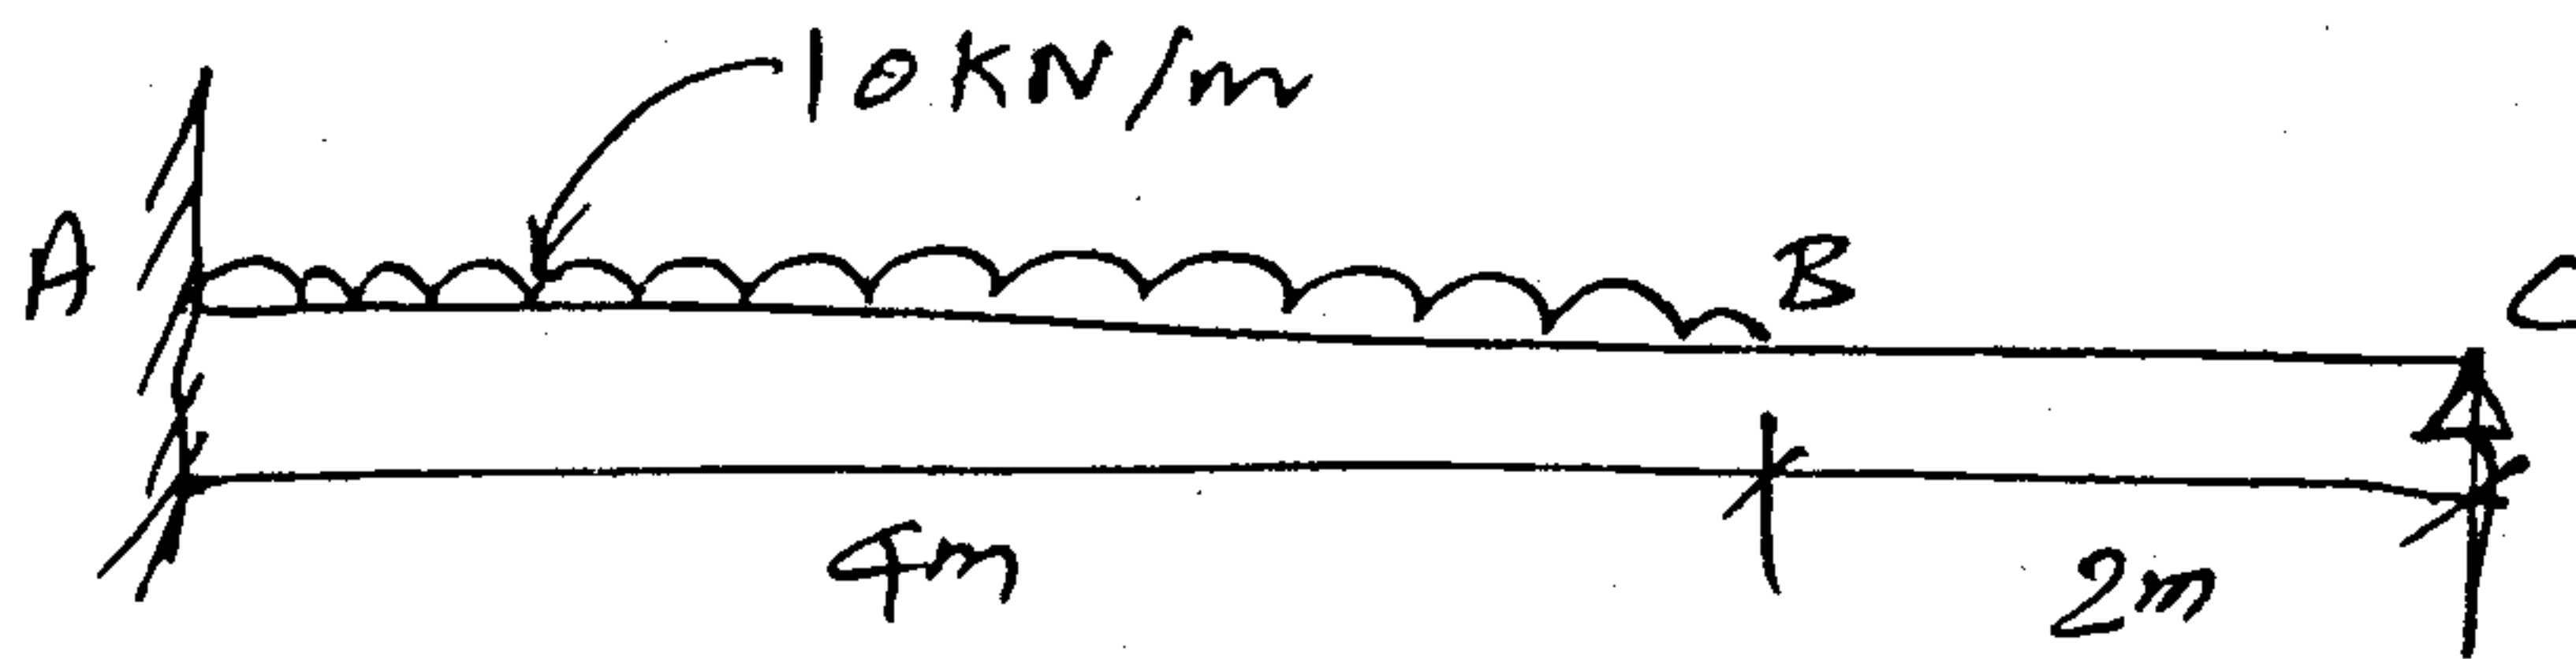

Fig. Q. 12 (a)
- (ii) A piece of material is subjected to two perpendicular stresses  $f_1$  (tensile) and  $f_2$  (compressive). Find an expression for the strain energy stored per unit volume. If a stress of 128 N/mm2 acting alone gives the same value of strain energy as per the expression already found, find the value of  $f_2$  when  $f_1 = 112$  N/mm2. Take  $1/m = 0.30$ . (8)
12. (a) A cantilever ABC is fixed at A and propped at C is loaded as shown in fig. Q. 12 (a). Find the reaction at C. (16)